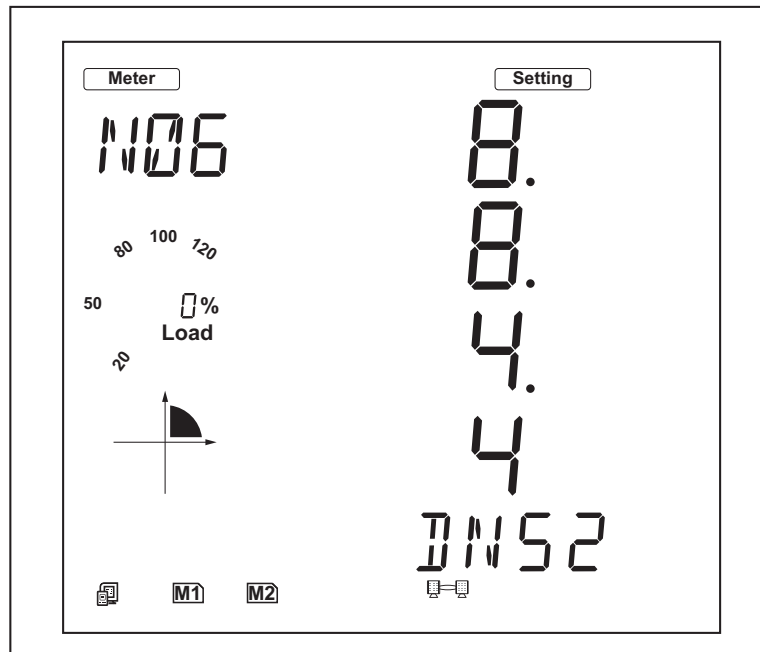

Figure 20: N06: DNS Secondary Server
14. Press **P** to get to N06: DNS Secondary Server for Ethernet port 1 (Figure 20 on page 20).